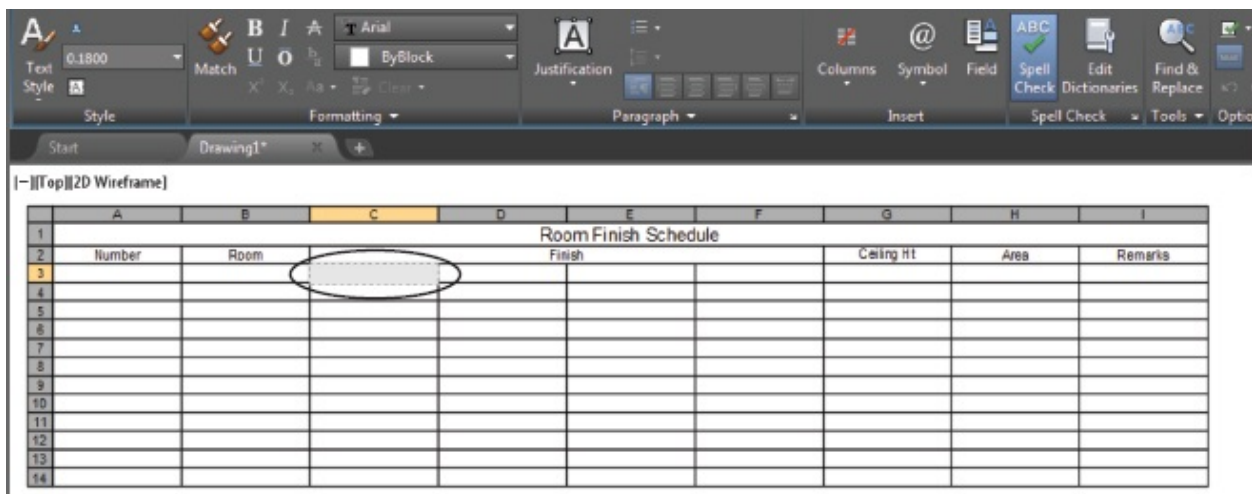

FIGURE 10.10 Double-click this cell and the Text Editor tab appears.
1. Double-click in the leftmost cell below the Finish cell. The Text Editor tab appears in the Ribbon (see Figure 10.10).